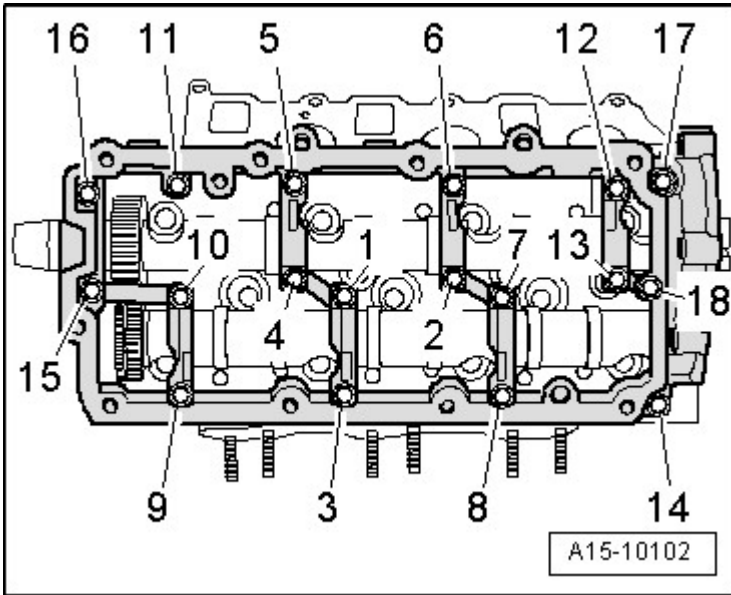
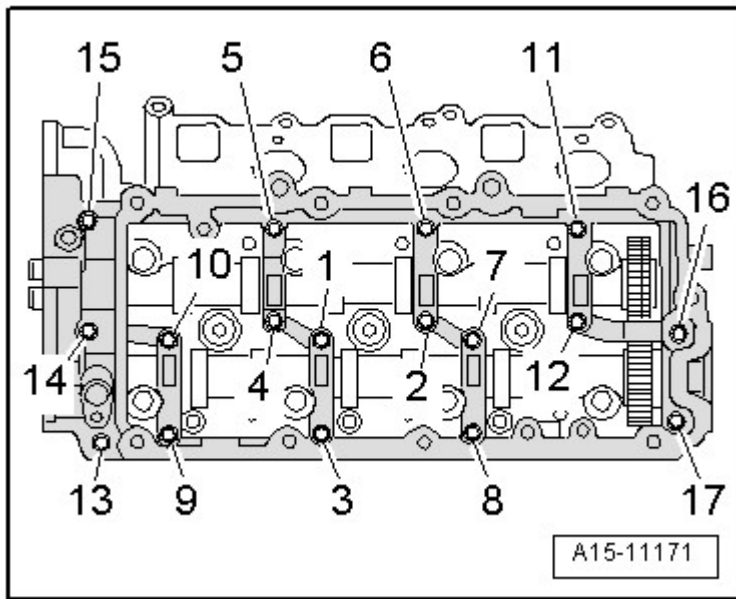

Fig. 18: Identifying Left Cylinder Head Guide Frame, Tightening Specifications and Sequence
Fig. 19: Identifying Right Cylinder Head Guide Frame, Tightening Specifications and Sequence
- Tightening specifications and sequence, refer to **Fig. 18**, **Fig. 19**